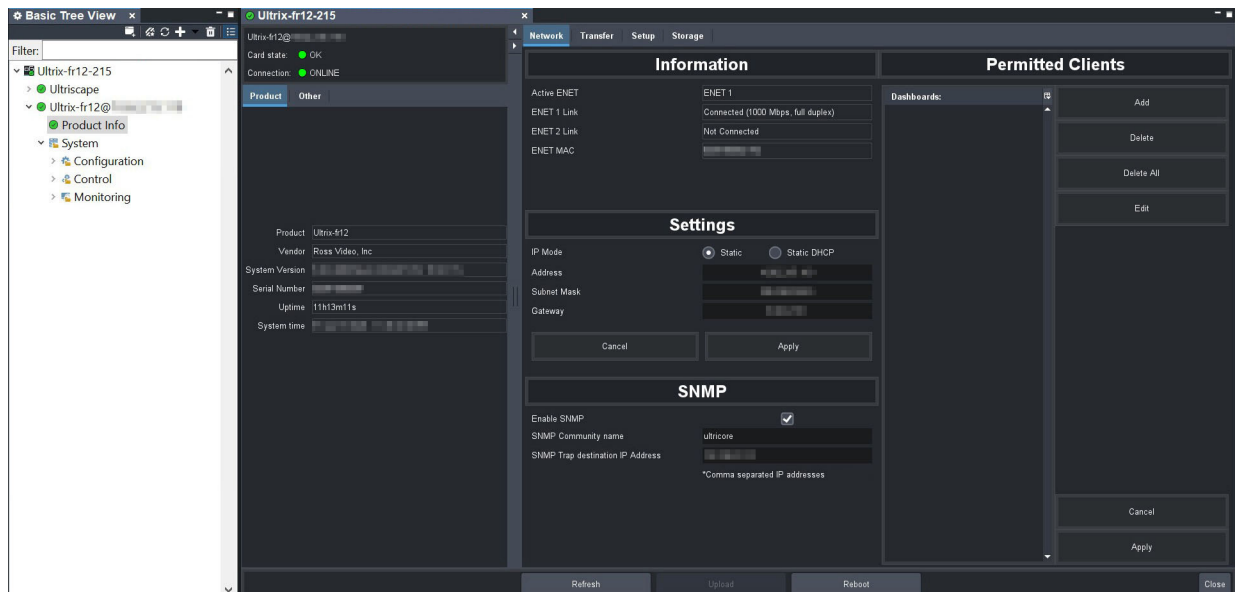

Figure 4 Example of the ULTRIX-FR12 > Product Info Window
**Figure 4** illustrates an ULTRIX-FR12 displayed in the DashBoard client window after the user double-clicked the **Product Info** sub-node.